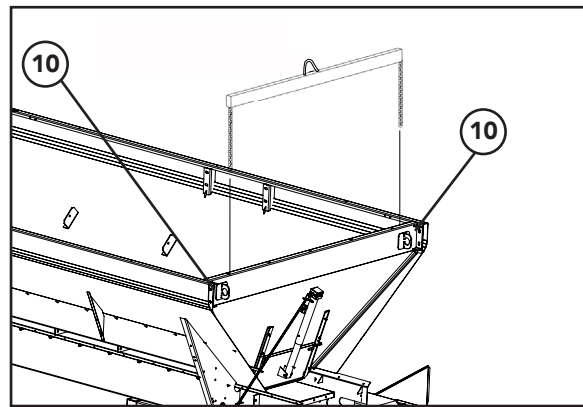

Figure 2
- Figure 2 - Support endgate by attaching a hoist to the lift hooks. Remove hardware (10) from both sides of the endgate and carefully remove from the spreader.